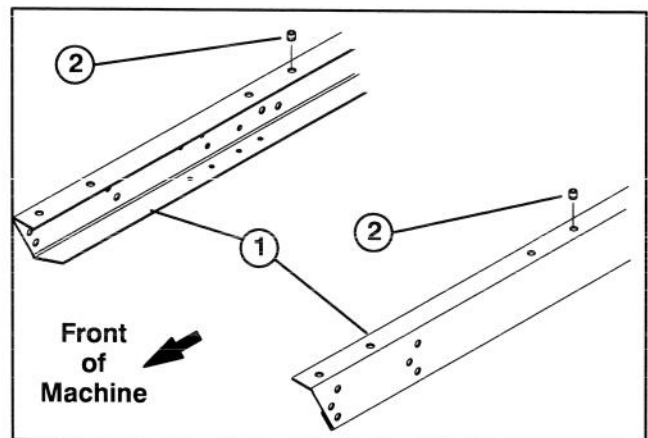

Figure 7
26. Locate and remove the threaded insert from the mounting hole in left and right vehicle frame channels, as shown in figure 7.